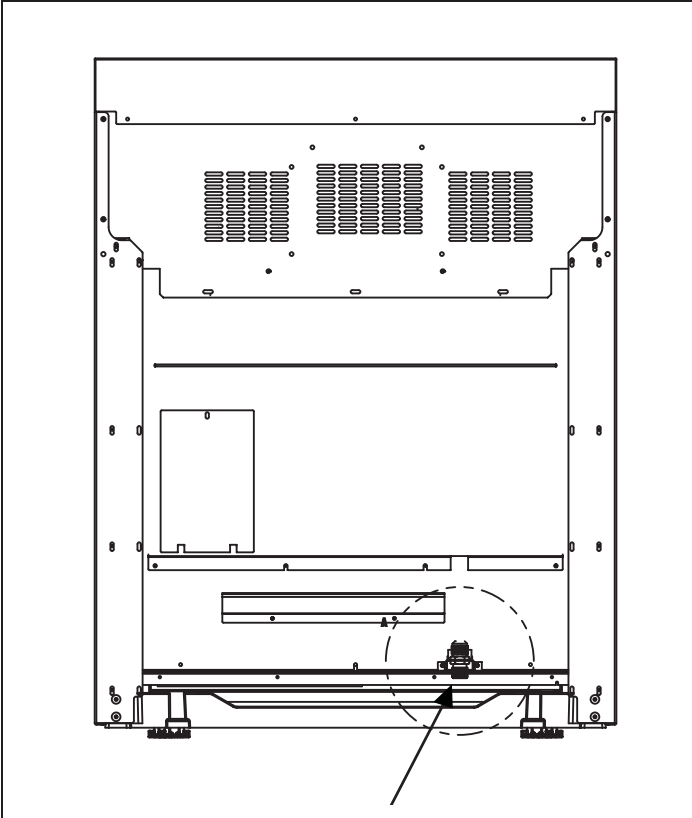

Figure 8: Location of Gas Supply Inlet Connection
- Use 3/4" flex line to connect between the gas supply and the appliance gas inlet, located at the lower right portion of the range. (See Figure 8.) The appliance inlet pipe connection is 1/2" NPT. Use caution to avoid crimping the 3/4" flex line when making bends. Suggested length of flex line is 48", however, please check local codes for your area's requirements before installation.